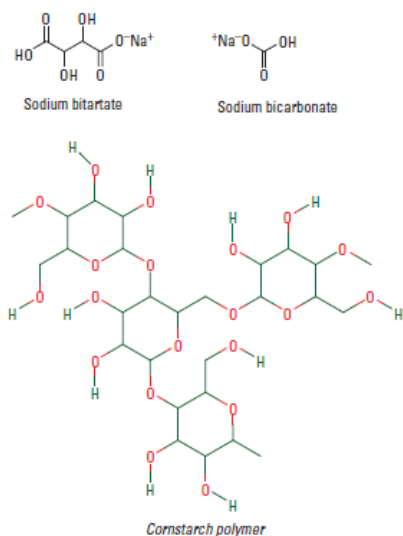

Figure 1. Components of baking powder
1. In your kitchen, there is a mixture that is usually listed as a single ingredient in recipes: baking powder. Baking powder is actually a mixture of sodium bicarbonate (baking soda), cream of tartar (sodium bitartate), and cornstarch. Look at these three molecules below in Figure 1 and describe how they are similar and how are they different in terms of size, bonds present, polarity, and types of intermolecular forces they can participate in, etc.
2. In the space around Figure 1, show how water molecules interact with the components of baking powder by drawing H_2O molecules in the correct position and orientation around each. Use a Lewis dot structure to represent water.